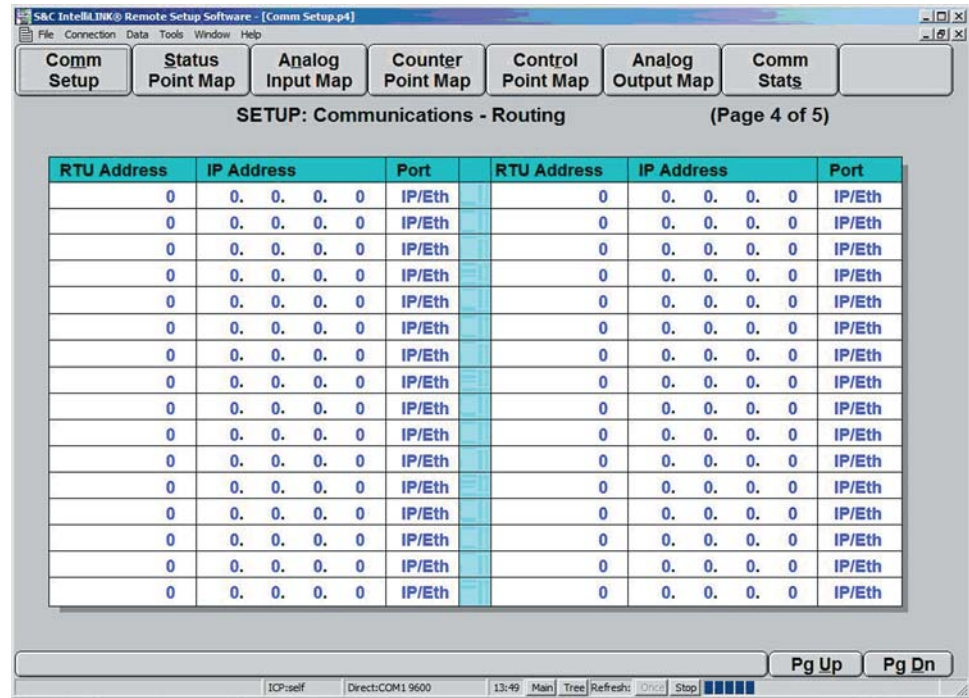

Figure 13. SETUP: Communications - Routing, Page 4.
- From **SETUP: Communications - Ethernet** click the **PgDn** Button to go to Page 4 of 5 (Figure 13). Enter the correct values for the Interface Module.